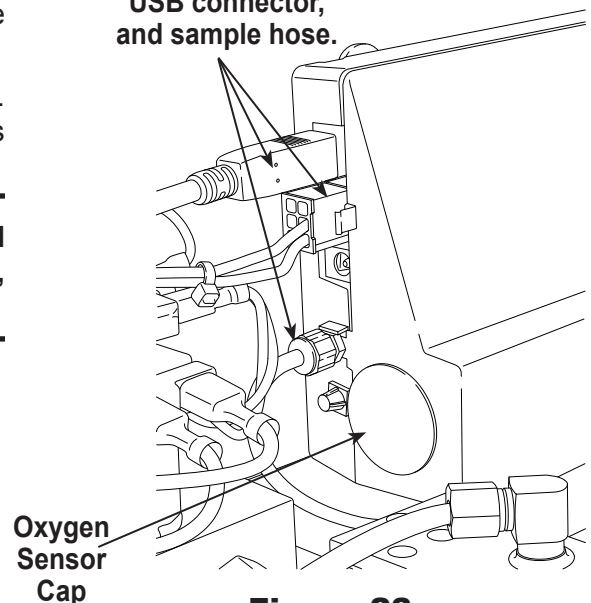

Figure 23
3. Disconnect the wire harness, USB connector, and sample hose from the identifier. See Figure 23.